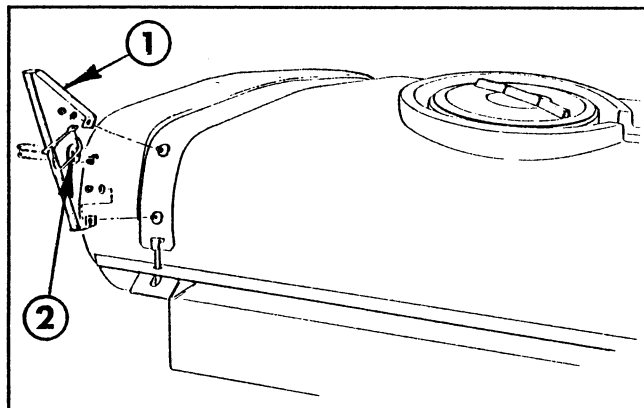
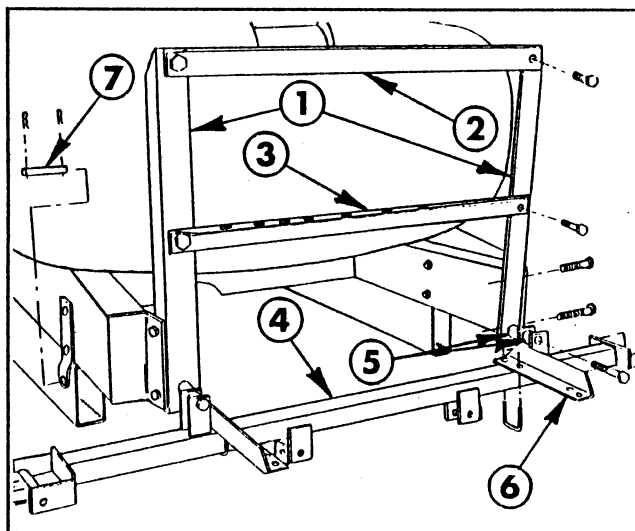

FIG. 8
FIG. 11
30. Place the tank and saddle assembly on the vehicle frame. Secure it to the vehicle frame by sliding the (2) 3/4" dia. clevis pins through the rear mounting lugs and the vehicle frame. Secure by installing the (4) lynch pins into the clevis pins. See FIG. 11.
31. Attach the boom hold-in brace assemblies to the (2) 5/16" x 3/4" carriage bolts found on each
side of the front tank mounting band using (4) flat washers and (4) 5/16" hex nuts. Tighten securely (FIG. 8).
32. Attach the boom hold-in assemblies to the hold-in brace assemblies mounted on each side of the front tank mounting band using (4) 1/4" U-bolts and (8) 1/4" nuts (FIG. 8).
40. Attach the two boom mount upright angles onto the rear of the tank saddle extensions using (4) 1/2"x 1-1/4" hex hd cap screws and locknuts (FIG. 11).
41. Position the lower cross support angle and attach it to the boom mount upright arms with (2) 1/2" x 1-1/4" hex hd cap screws and locknuts (FIG. 11).
42. Position the upper cross support angle and attach it to the boom upright angles with (2) 1/2" x 1-1/4" hex hd cap screws and locknuts. See FIG. 11.
43. Position the spacer tubes between the boom mount upright angles and the lugs on the main frame tube. Use (2) 1/2" x 4" hex hd. cap screws and locknuts to secure the main frame tube to the uprights (FIG. 11).
44. Position the two center boom angles on the main frame tube and secure them to the frame tube with (2) square U-bolts, (4) flat washers, and (4) hex nuts (FIG. 11).